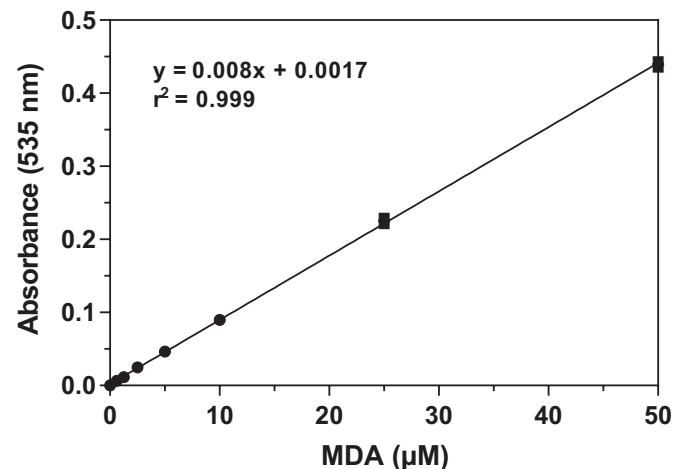

Figure 3. MDA colorimetric standard curve
4. Calculate the values of MDA for each sample from the standard curve. An example of the MDA standard curve is shown below in Figure 3.